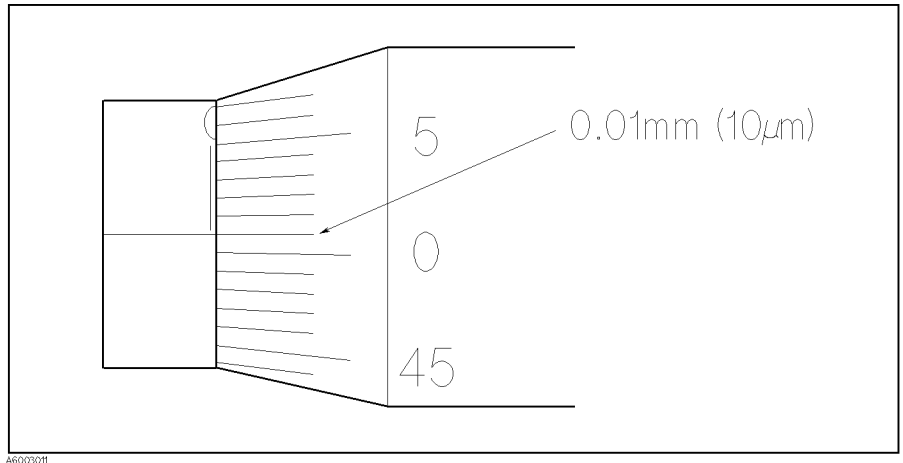

Figure 3-28. The Micrometer Scale Adjusted to 0.01 mm
6. Turn the small knob of the micrometer cw and adjust it until the micrometer scale indicates 0.01 mm (10 μm) as shown in Figure 3-28.